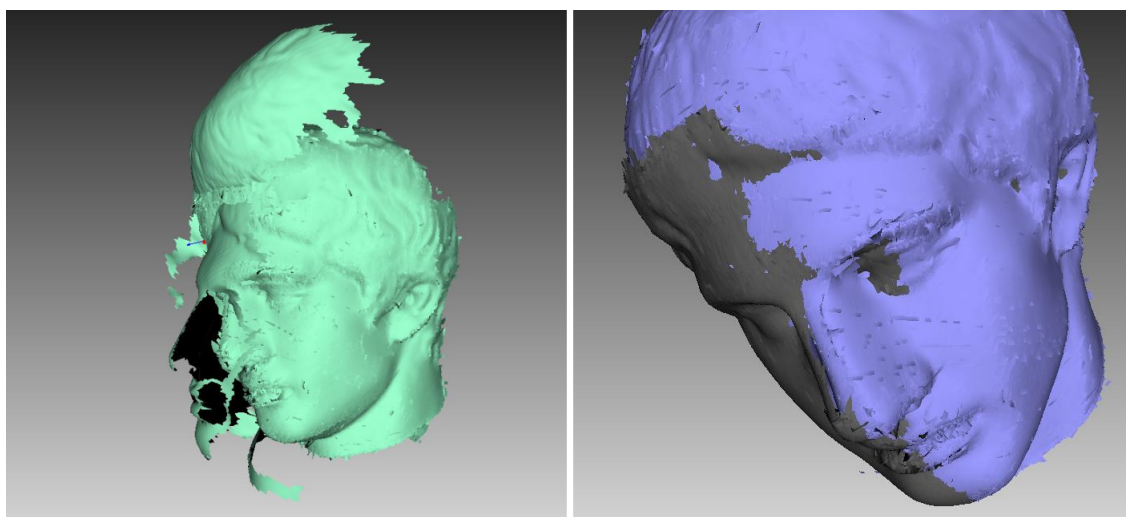

Figure 8.28: Global-registration errors: wrong settings on left and gap between scans on right.
- After the global-registration algorithm finishes, the frames are in disarray (see Figure 8.28, left) or the frame positions are unchanged. This error occurs because the application is configured for a different scanner type than the one that captured the data. Change the device type in the application settings (see Algorithm Settings).
- The algorithm has completed successfully, but a gap exists between two or more scans (see Figure 8.28, right). Select just these scans in the *Workspace* panel and run the global-registration algorithm. If the scans have drawn closer to each other but have failed to align after the algorithm finishes, increase the number of iterations and rerun the algorithm. Repeat this process until you achieve full alignment, then run global registration once again for all data. If you are unable to align several problematic scans, try aligning just two of them, then gradually increase the number of scans until all of them are aligned.